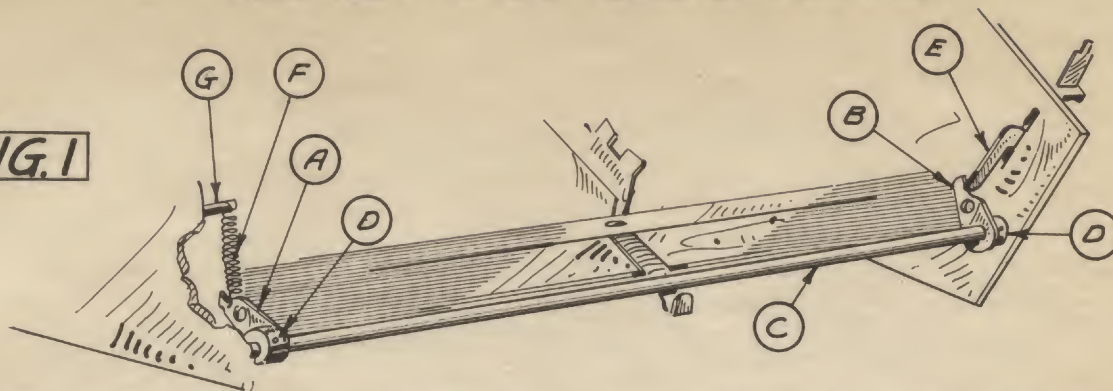

**FIG. 3**
- 412 THE INSTRUCTIONS CONTAINED IN FIG. 3 IN CONJUNCTION WITH ADJUSTMENT NOTES FOUND ON PLATE 53-54-55-56-57 BULLETIN #34 - SHOULD SUPPLY ALL NECESSARY INFORMATION TO ADJUST THE BAILS OF THIS MODEL.